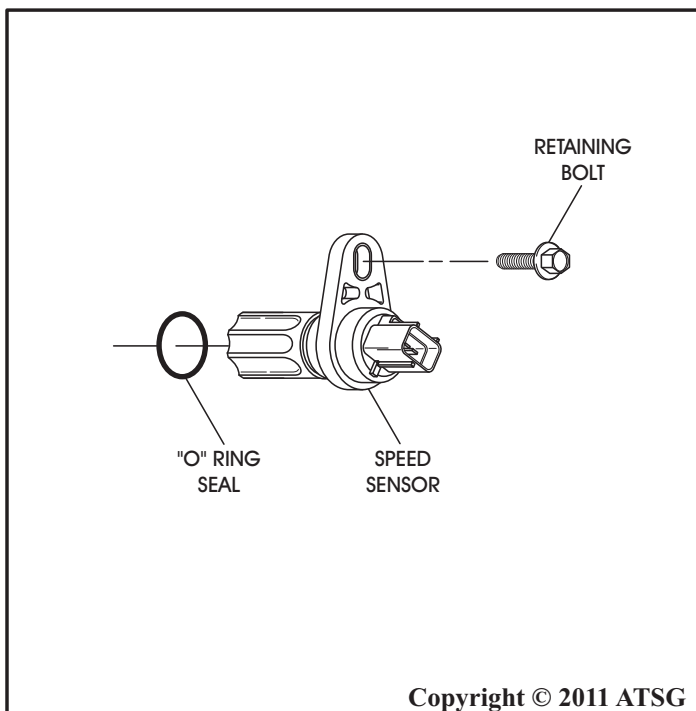

Figure 165
52. Install new "O" ring seals on both input and output speed sensors, as shown in Figure 165, and lube with small amount of Trans-Jel®.